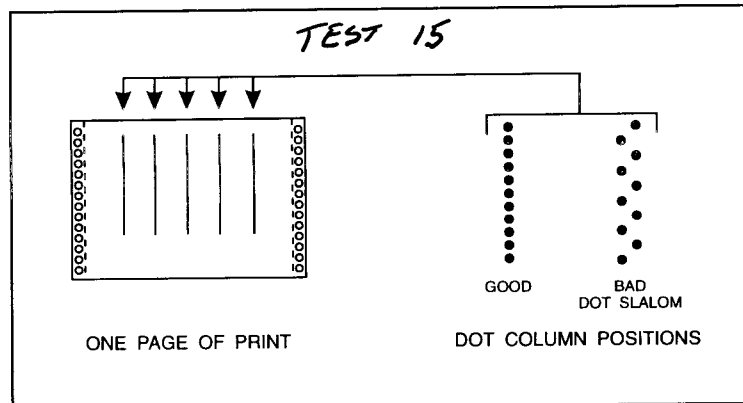

Figure 5-8. Subtest 15 - Flight Time Adjustment Printout
To determine if the flight time is adjusted correctly, observe the dot pattern produced by diagnostic subtest number 15 (see Figure 5-8, below). The vertical lines of this test should have the dots placed directly beneath each other. Any sawtooth effect indicates the flight time is out of adjustment.
- d. Check the results of the adjustment. To check the adjustment, perform the printer diagnostic Flight Time Test (test #15; refer to Section 4-4, Selftest and Selectable Subtests) and observe the vertical lines of the test printout for any sawtooth effect (see Figure 5-8). If the sawtooth effect is still evident, return to step "b" and increase the parameter; or, if the sawtooth effect appears to have increased, try varying the parameter in the opposite direction.